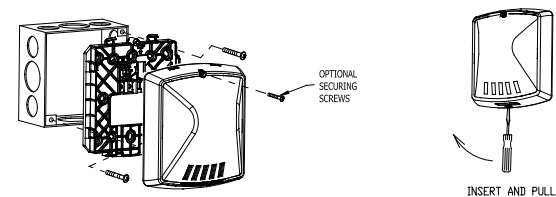

Figure 5: Installation
- Install mounting plate as shown in Figure 5 to a single-gang, double-gang, 4" square backbox with the provided pan head screws.
- Remove terminal cover before snapping or installing the appliance onto the mounting plate per Figure 5.
- To remove the appliance, insert a small flat-bladed screwdriver into the bottom opening 1/2" as shown in Figure 5. Then pry off housing with the screw driver.
**WARNING:** A small possibility exists that the use of multiple strobes within a person's field of view, under certain circumstances, might induce a photo-sensitive response in persons with epilepsy. Strobe reflections in a glass or mirrored surface might also induce such a response. To minimize this possible hazard, Cooper Notification strongly recommends that the strobes installed should not present a composite flash rate in the field of view which exceeds five (5) hz at the operating voltage of the strobes. Cooper Notification also strongly recommends that the intensity and composite flash rate of installed strobes comply with levels established by applicable laws, standards, regulations, codes and guidelines.
**NOTE:** This device complies with part 15 of the FCC Rules. Operation is subject to the following two conditions: (1) This device may not cause harmful interference, and (2) this device must accept any interference received, including interference that may cause undesired operation.